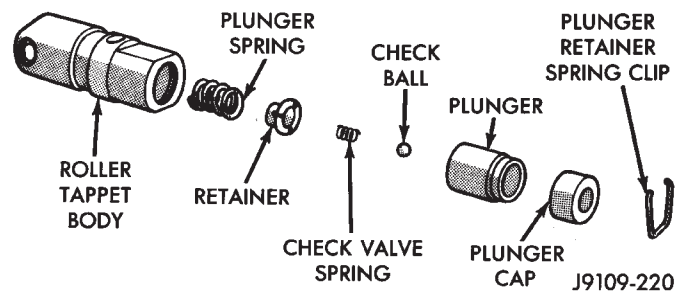

Fig. 47 Hydraulic Tappet Assembly
- (1) Pry out plunger retainer spring clip (Fig. 47).
- (2) Clean varnish deposits from inside of tappet body above plunger cap.
- (3) Invert tappet body and remove plunger cap, plunger, check valve, check valve spring, check valve retainer and plunger spring (Fig. 47). Check valve could be flat or ball.
- (1) Clean all tappet parts in a solvent that will remove all varnish and carbon.
- (2) Replace tappets that are unfit for further service with new assemblies.
- (3) If plunger shows signs of scoring or wear, install a new tappet assembly. If valve is pitted, or valve seat on end of plunger is prevented from seating, install a new tappet assembly.
- (4) Assemble tappets (Fig. 47).